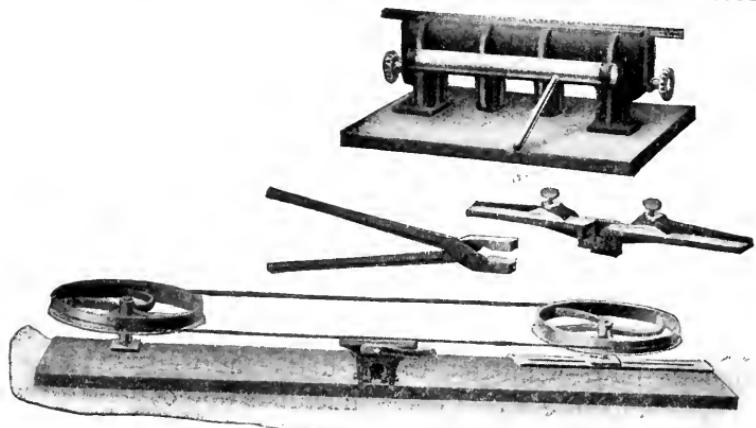
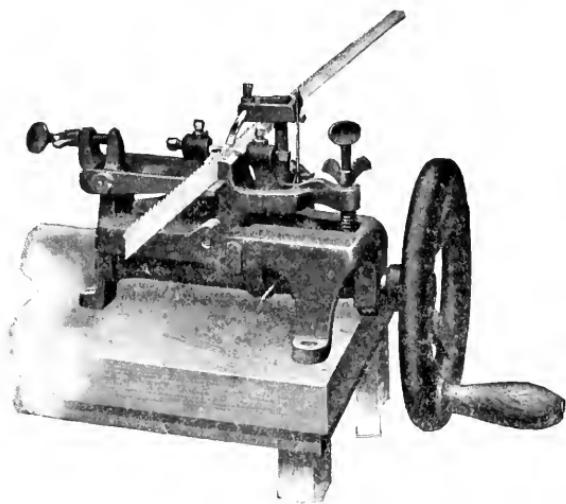

Fig 41 WHEELS AND CLAMP FOR HAND FILING. (LARGER SCALE VIEW OF CLAMP AND BRAZING TONGS AT TOP.)
Fig. 42. NARROW BAND SAW
43. Setting and Filing-- When small band saws are set by hand the process is very much like that of setting and filing an ordinary cross-cut hand saw. But to do this conveniently, it is necessary to have two large wheels (either wood or metal) and a vise, Fig. 41, on which to hold the band saw while fitting. The more common method however, is to use a machine for setting and an automatic machine for filing. A narrow band saw setting machine is illustrated in Fig. 42. This machine sets all of the teeth uniformly and may be adjusted to set saws $\frac{1}{8}$ " to $1\frac{1}{2}$ " in width with the teeth spaced 1-16" to $\frac{5}{8}$ ". The vise automatically grips the blade while the teeth are being set and prevents in this way the twisting of narrow saws.
This machine is intended for a power drive or may be arranged to drive by hand. It will take saws of the same specifications as the setting machine in Fig. 42.